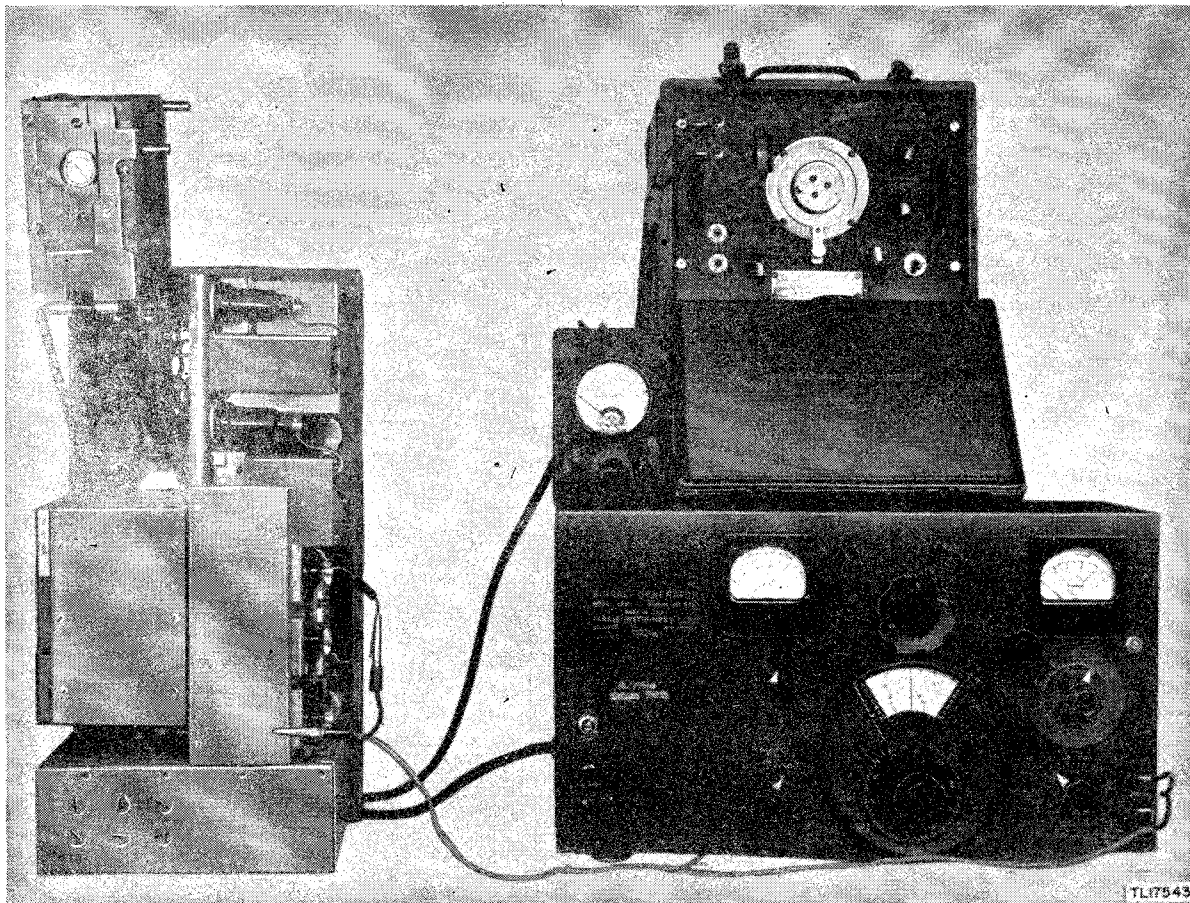
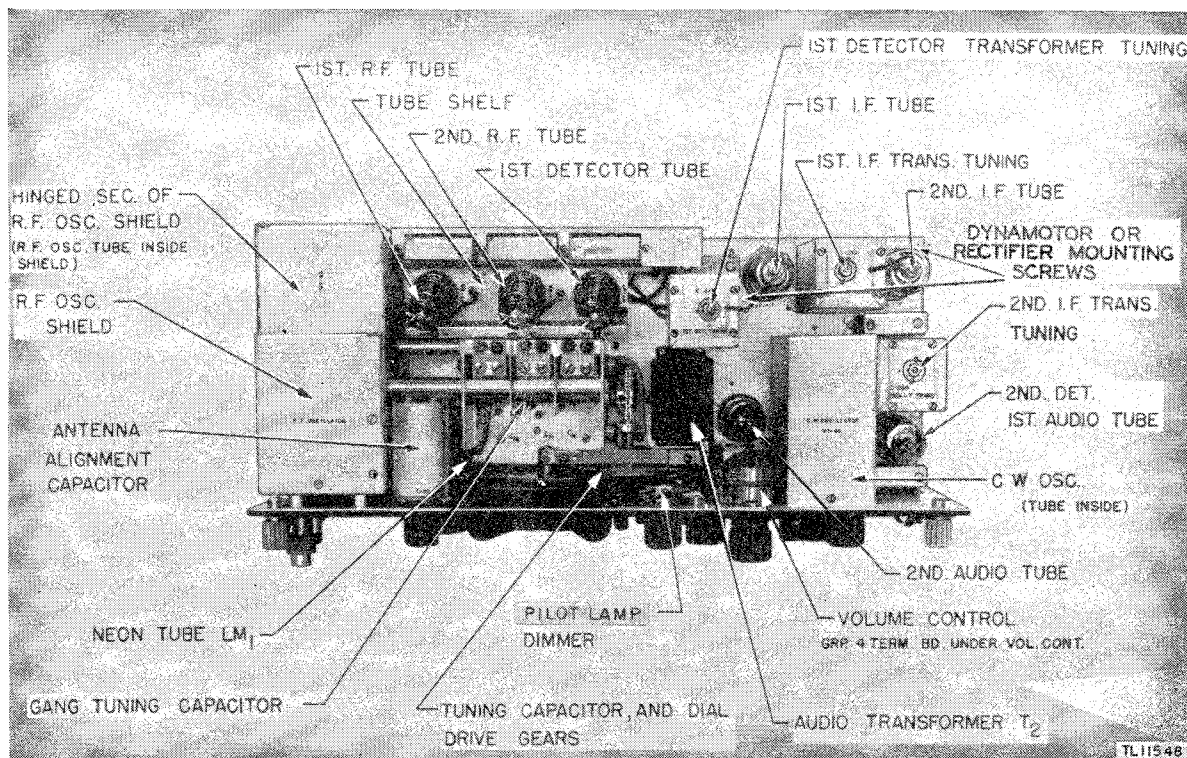
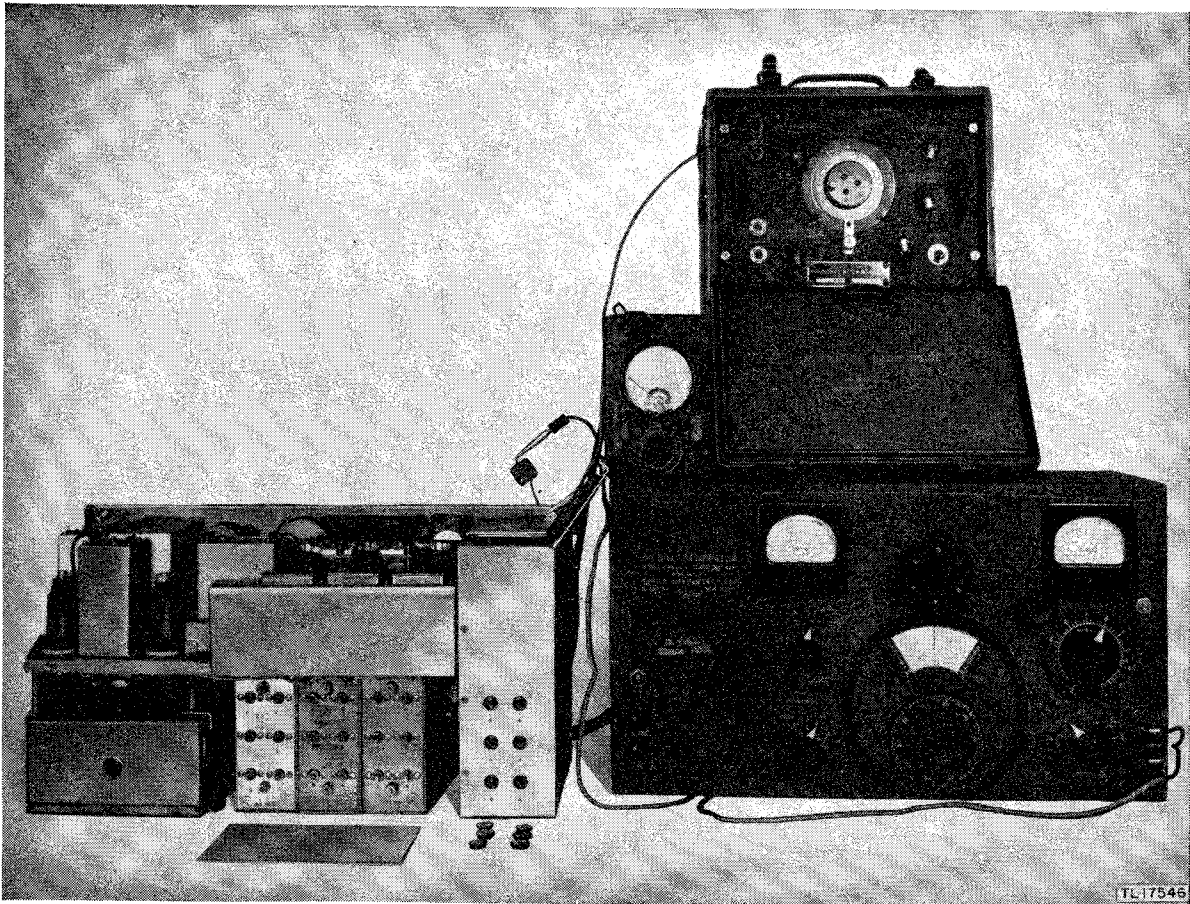

Figure 12. Radio Receiver BC-312-(*), or BC-342-(*), typical set-up for i-f alignment.
Figure 13. Receiver chassis, top view.
Figure 15. R-f oscillator alignment, typical set-up.
To remove the dynamotor or rectifier assembly from the chassis, unscrew the two screws on top of the chassis (fig. 13.). Turn the chassis
a. GENERAL. The rectifier can be tested and repaired without removing it from the receiver. Remove the two screws from the top of the chassis (fig. 13). Turn the receiver chassis upside down and remove the screw pin from the inner mounting hinge. Swing the rectifier assembly away from the panel. Discon-
a. PREPARATION. Set up the receiver and alignment equipment (fig. 12). Calibrate the signal generator for a 470-ke signal (par. 16). Remove from the top of the chassis the two screws which hold the power supply stationary (fig. 13). Remove the screw from the dynamotor or rectifier inner mounting hinge and swing the power supply upward, securing it in position with a rack or block of wood. Set the OFF-M. V. C.-A. V. C. switch to M. V. C., the CRYSTAL PHASING control to OUT, the C. W.-OSC. switch to OFF, and the VOL. control to maximum. Loosen the i-f transformer screw locknuts.
(1) Attach the signal generator ground lead to the receiver chassis and connect the dummy antenna (300-ohm resistor) between the grid cap of the second i-f amplifier tube and the output lead from the signal generator.
(2) Connect the output meter to the PHONES 2d AUDIO jack, and adjust the signal generator attenuator to give a small deflection on the output meter, using the smallest scale possible.
(3) Adjust the second i-f transformer adjustment screws (figs. 13 and 14) located on the top and bottom of the transformer for maximum output indication.
(4) Reduce the signal generator output whenever necessary during alignment to avoid overloading the receiver.
(5) Move the dummy antenna to the grid cap of the first i-f amplifier tube; adjust the first i-f transformer adjustment screws for maximum output indication.
(6) Connect the dummy antenna to the grid cap of the first detector tube; adjust the first detector transformer adjustment screws for maximum output indication.
(7) Leaving the dummy antenna connected to the first detector tube, readjust the second i-f, first i-f, and first detector transformer adjustment screws, in the order named, for maximum output.
(8) Carefully tighten the adjustment screw locknuts, avoiding any change in the settings of the screws. A change in the deflection of the output meter while a locknut is being tightened indicates that the adjustment screw has been moved and must be readjusted.
b. PREPARATION. Set up the receiver and alignment equipment as shown in figure 15. Calibrate the signal generator for a 2,900-kc
a. PREPARATION. Set up the equipment (fig. 12). Calibrate the signal generator to 470 kc (par. 16). Set the OFF-M. V. C.-A. V. C. switch to M. V. C. or A. V. C. and the C. W.-OSC. switch to ON. Turn the CW-OSC ADJUST control so that the arrow is horizontal, pointing to the right. Remove the cap screw above the C. W.-OSC. switch, permitting access to the c-w oscillator adjustment screw. Connect a headset or speaker to the receiver.
a. PREPARATION. Set up the equipment (fig. 12). Calibrate the signal generator to 470 kc (par. 16). Set the OFF-M. V. C.-A. V. C. switch to M. V. C. and the C. W.-OSC. switch to ON. Connect a headset or speaker and the output meter to the receiver.
(1) Connect the dummy antenna (300-ohm resistor) between the grid cap of the first detector tube and the output lead of the signal generator. Connect the ground lead of the signal generator to the chassis.
(2) Feed an unmodulated 470-kc signal into the receiver; rotate the CW-OSC ADJUST control until a sharp, shrill note is heard.
(3) Turn the CRYSTAL PHASING control counterclockwise (away from OUT) until a minimum or null signal response is heard. If the signal is too weak to be heard, advance the signal generator gain control until the signal is audible.
(4) Determine the operation frequency of the crystal by careful varying of the signal generator frequency slightly above and below 470 kc until a sharp increase in deflection is noted on the output meter and the volume increases noticeably in the headset or speaker. (During this procedure, it may be necessary to change the setting of the CW-OSC ADJUST control to maintain the shrill note.)
(5) Leave the signal generator set at the operation frequency of the crystal, turn the c-w oscillator off, and turn the signal generator modulation on. Repeat the i-f and first detector transformers for maximum output (par. 17). Also, realign the c-w oscillator at this new frequency (par. 20).
(6) To obtain maximum sensitivity from the receiver, it may be necessary to touch up the r-f oscillator-alignment adjustment screws, after the alignment of the crystal filter and realignment of the i-f stages.